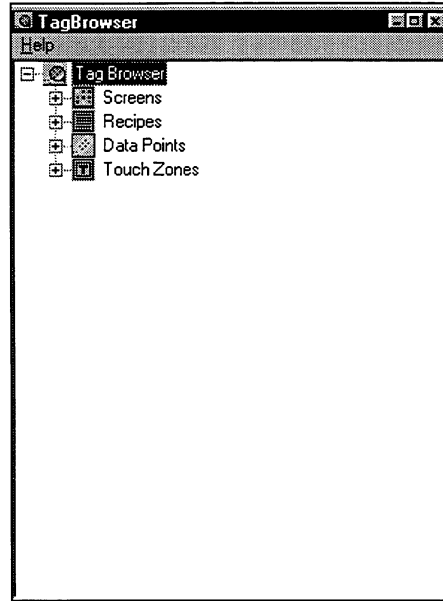

Figure 4-14. Tag Browser
5. Open the Tag Browser (shown in Figure 4-14) located on the Tools menu.